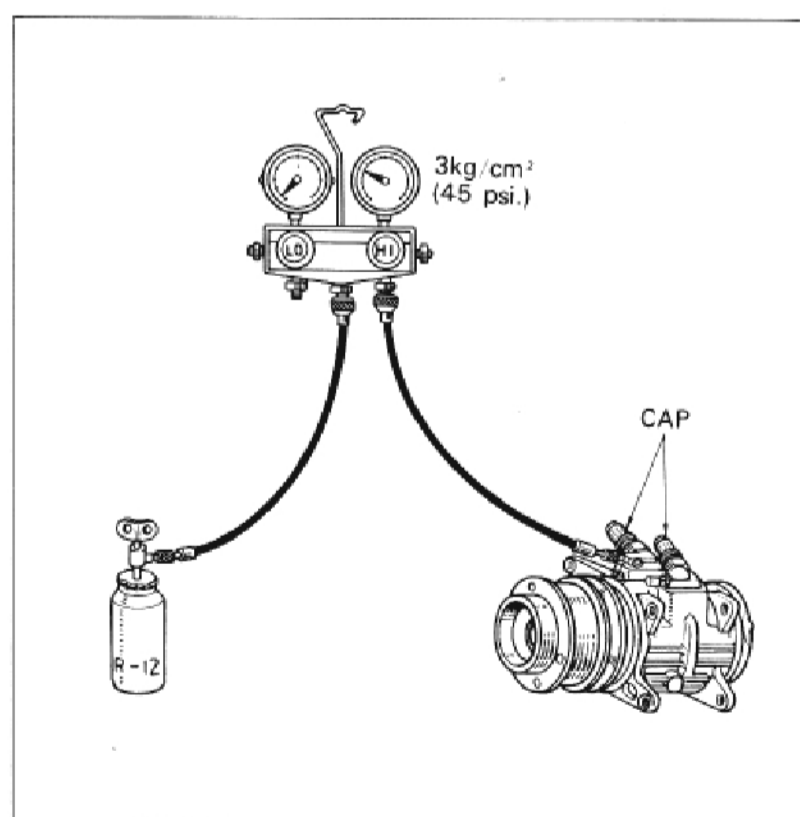

Fig. 4
- B) Charge the refrigerant into the compressor through the charging valve till the pressure raises up to 3 kg/cm² (45 psi.). See Fig. 4.